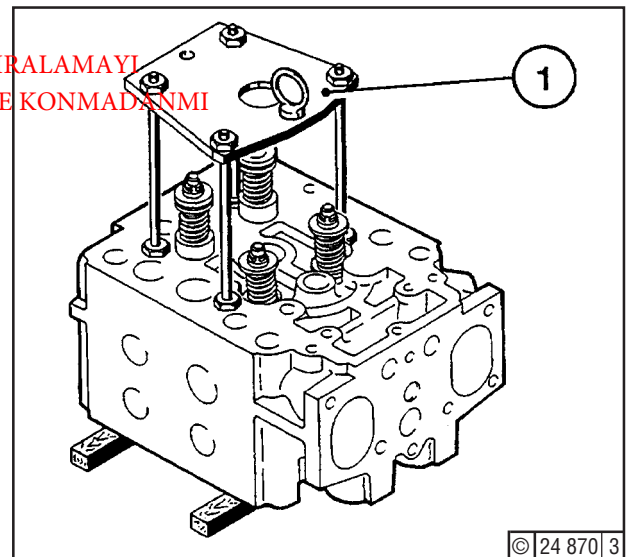

Fig. 2 Refitting device
- Fit lifting device (1) - Fig. 2 -.
- Remove lifting device (1).